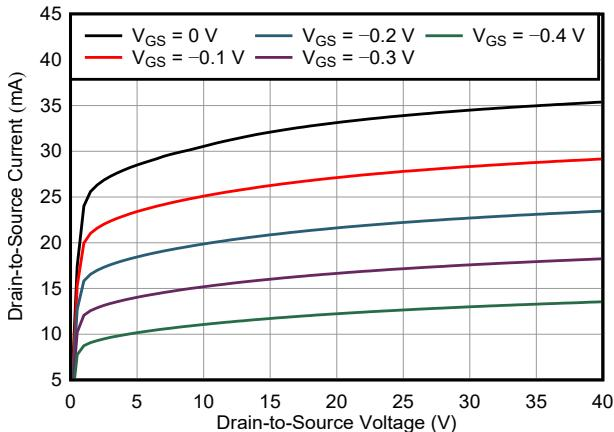

Figure 6-2. Drain-to-Source Current vs Drain-to-Source Voltage
• Changed Figure 6-2, Drain-to-Source Current vs Drain-to-Source Voltage , to show correct $V_{GS}$ values.....	<a href="#">6</a>